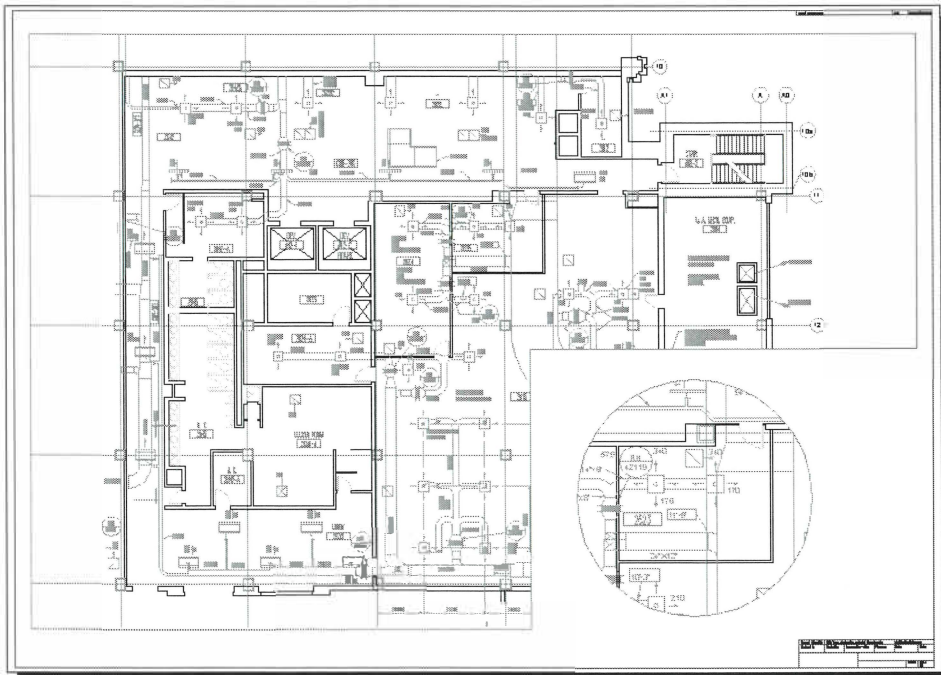

Figure 8–22
7. In the *Layout* tab>Layout Viewports panel, expand  (Viewports flyout) and click  (Viewports, Object) and select the circle. Double-click inside the circular viewport and set its viewport scale to **1:30**. Pan to display any one room of the plan, similar to what is shown in Figure 8–22.